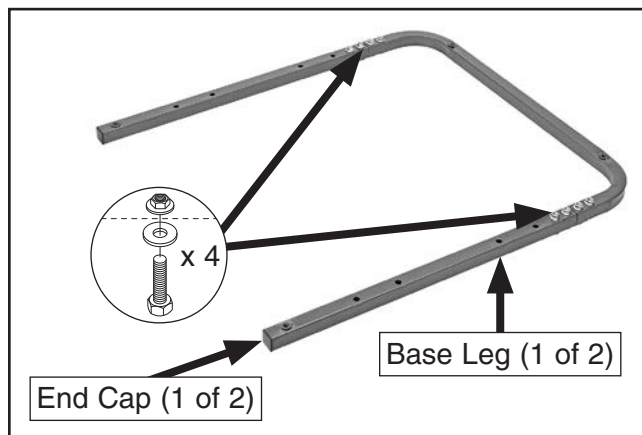

Figure 5. Base legs attached to base arch.
3. Attach (2) base legs to base arch (see **Figure 5**) with (4) $\frac{5}{16}$ "-18 x $1\frac{1}{4}$ " hex bolts, $\frac{5}{16}$ " flat washers, and $\frac{5}{16}$ "-18 flange nuts. Only hand-tighten for now.
4. Install (1) end cap in the end of each base leg (see **Figure 5**).